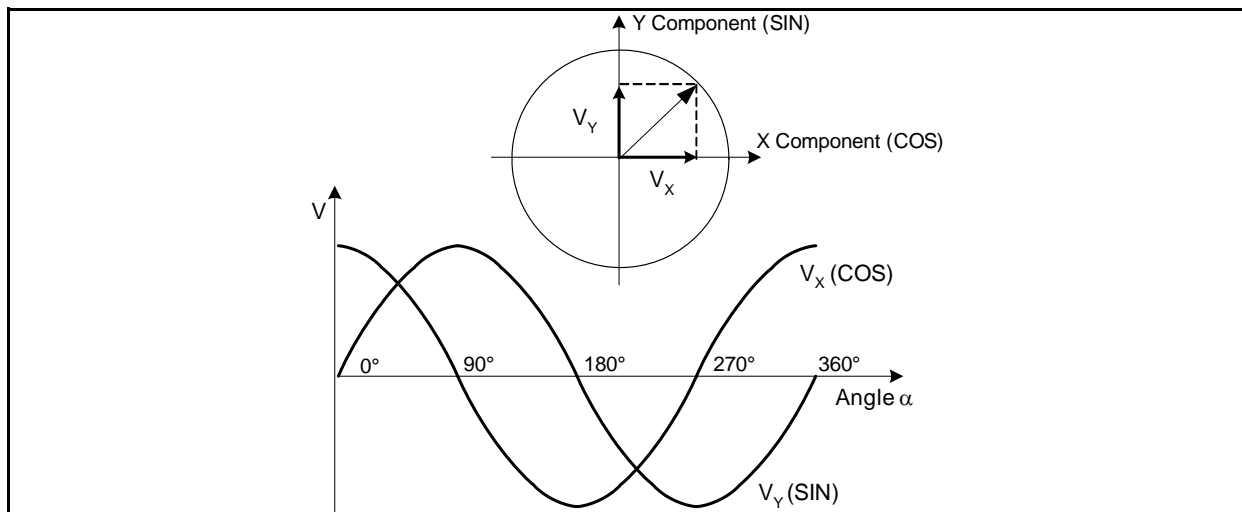

Figure 2 Ideal Output of the GMR Angle Sensor
*Note: In **Figure 1**, the arrows in the resistor symbols denote the direction of the reference layer, which is used for the further explanation (**Figure 2**).*